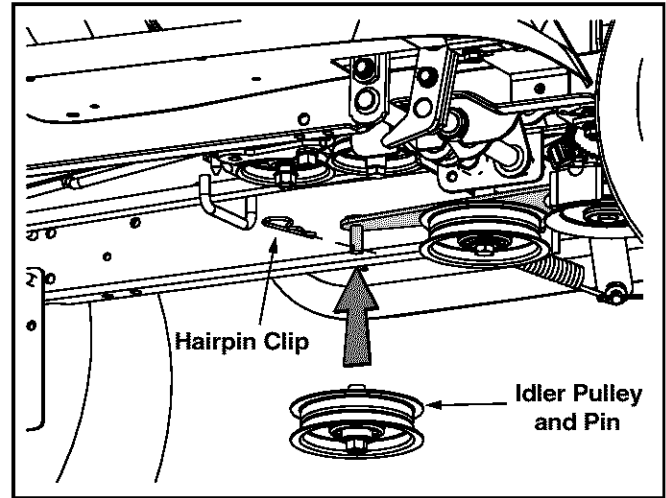

Figure 8
- Position the idler pulley and pin onto the weld pin of the PTO engagement plate and secure with the hairpin clip just removed. See Figure 8.